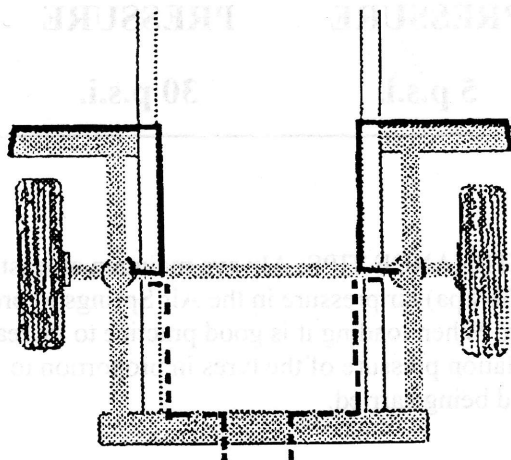

FIGURE 3
6. Select a location for the inflation valves in the rocker sills or rear floor pan ensuring that each valve will be protected and accessible with an air hose. (Figure 3).